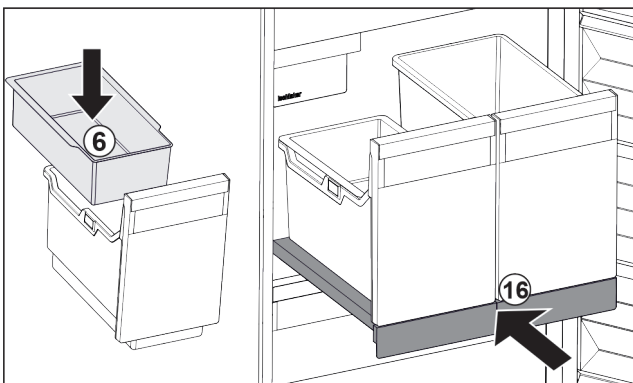

Fig. 89
- ▶ Insert hang-on tray Fig. 89 (6) for ice cubes.
- ▶ Slide in the pull-out board with container (IceTower). Fig. 89 (16)